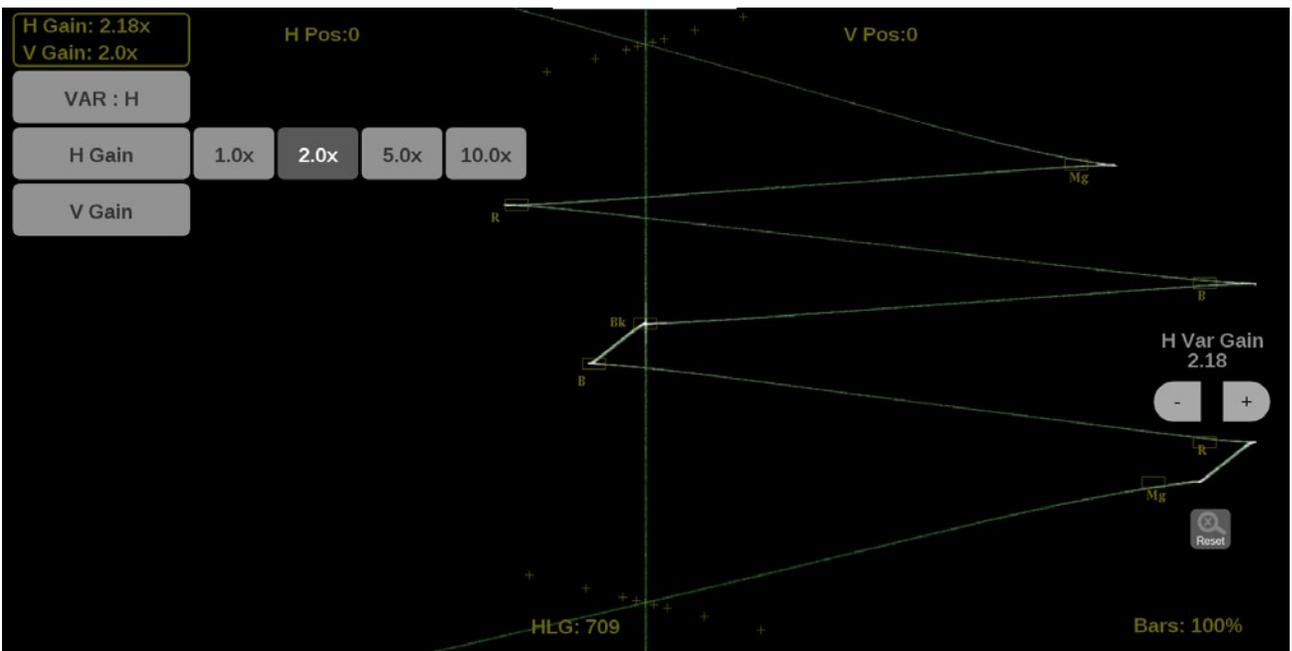

Figure 209: Lightning on-screen tools – horizontal gain
1. Select the button in the top left corner to expand the available options drop down list. (See Figure 209.)